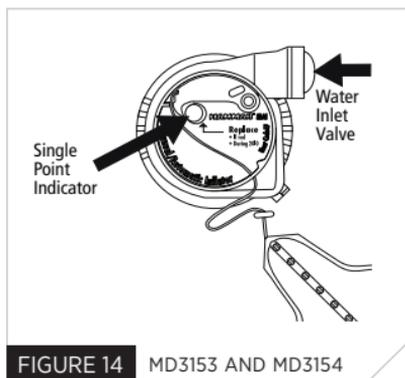

FIGURE 14 MD3153 AND MD3154
7. Now check the new yellow cap as follows (Fig. 14 for models MD3153 and MD3154, and Fig. 14a for model MD3151):